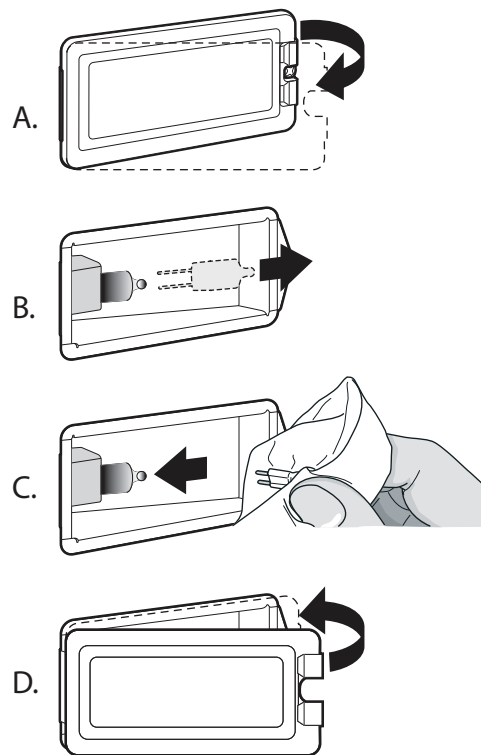

Figure 35: Bulb Replacement
3. Slide the tip of a flat blade screw driver between the fixing glass lens cover and the lamp housing (*Figure 35, A*).
6. Remove the bulb by grasping and sliding the bulb straight back until the two prongs have cleared the ceramic holder (*Figure 35, B*).
8. Press down to seat the bulb (*Figure 35, C*).
9. Slide the protective lens into the holder clip and push the other end until the lens snaps back into the housing (*Figure 35, D*).